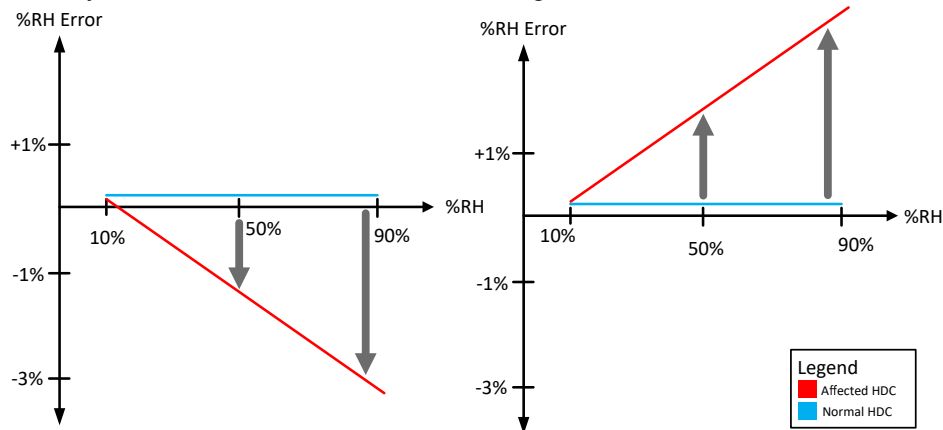

Figure 2-4. RH Gain Error Example
- **RH Gain:** refers to a shift in RH error that is not constant over humidity; for example, a positive RH gain may have low RH error at low humidity and a high RH error at high humidity, while a negative RH gain may have high RH error at low humidity and low RH error at high humidity. Figure 2-4 shows two examples of RH gain. On the left is an example of negative RH gain, and on the right an example of positive RH gain. Note how at low RH levels the effects of gain shift can be minimal, but as RH increases the effects become more pronounced. In many real-world cases, RH offset and RH gain can be combined.